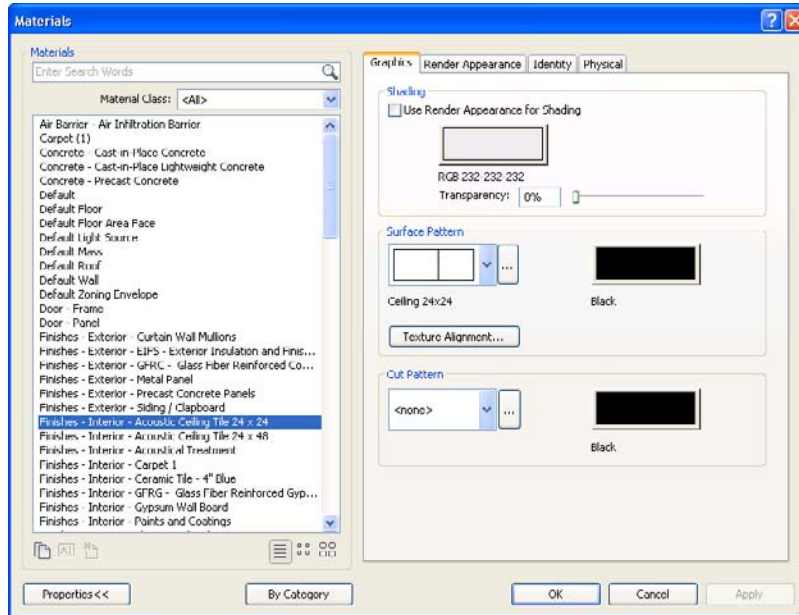

Figure 3.100
7. In the Materials dialog box, select Finishes – Interior – Acoustic Ceiling Tile 24 × 24 [Ceiling Tile 600 × 600] (Figure 3.100). Click OK three times to exit the Materials, Edit Assembly, and Type Properties dialog boxes.